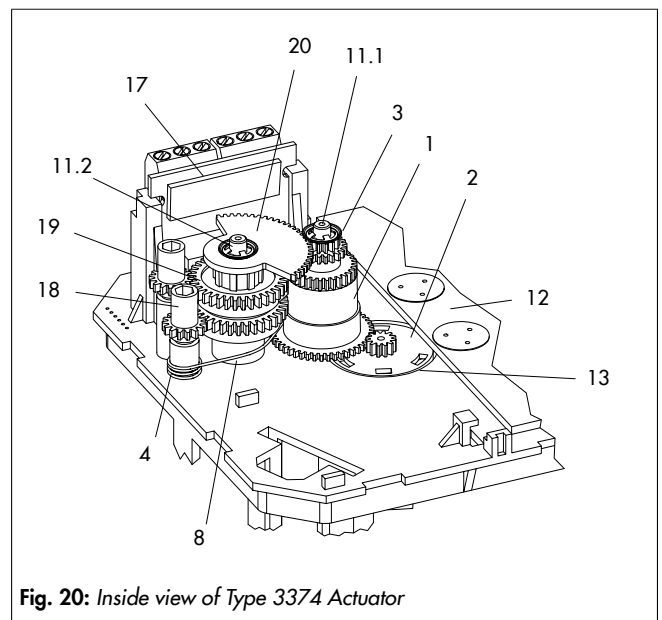

Fig. 20: Inside view of Type 3374 Actuator
⇒ See Fig. 20.
11. Slide the cam holder (20) with both contact cams (19) onto the spindle 2 (11.2) corresponding with the position of the actuator stem as illustrated in Fig. 20. Make sure that the outermost cog of the cam support (20) engages in the